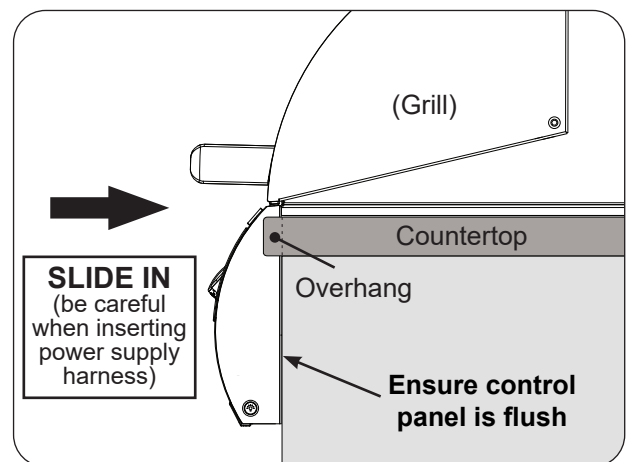

Fig. 28-3 Slide in unit (ensure flush)
- Ensure the unit fully slides in so that the control panel sits flush against the enclosure front wall. See the COUNTERTOP OVERHANG section in ENCLOSURE REQUIREMENTS for details (see Fig. 28-3).